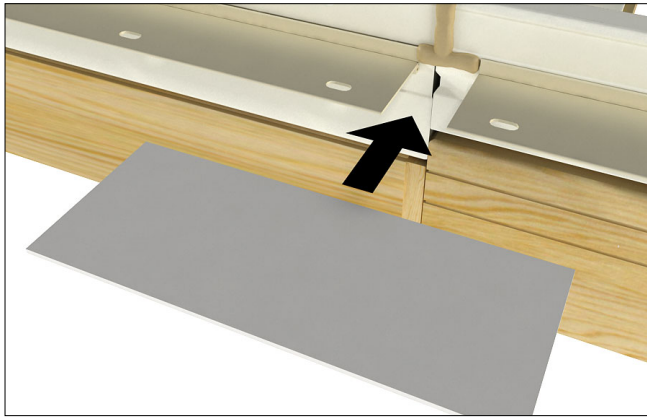

Figure 10
5. Apply silicone sealant at both mullion joints from the frame exterior edge to the drip cap/nauling fin kerf and across the kerf over the mulling pin as shown in figure 10. Apply nauling fin connector by removing the paper backing from the connector and pressing into place. See figure 10.